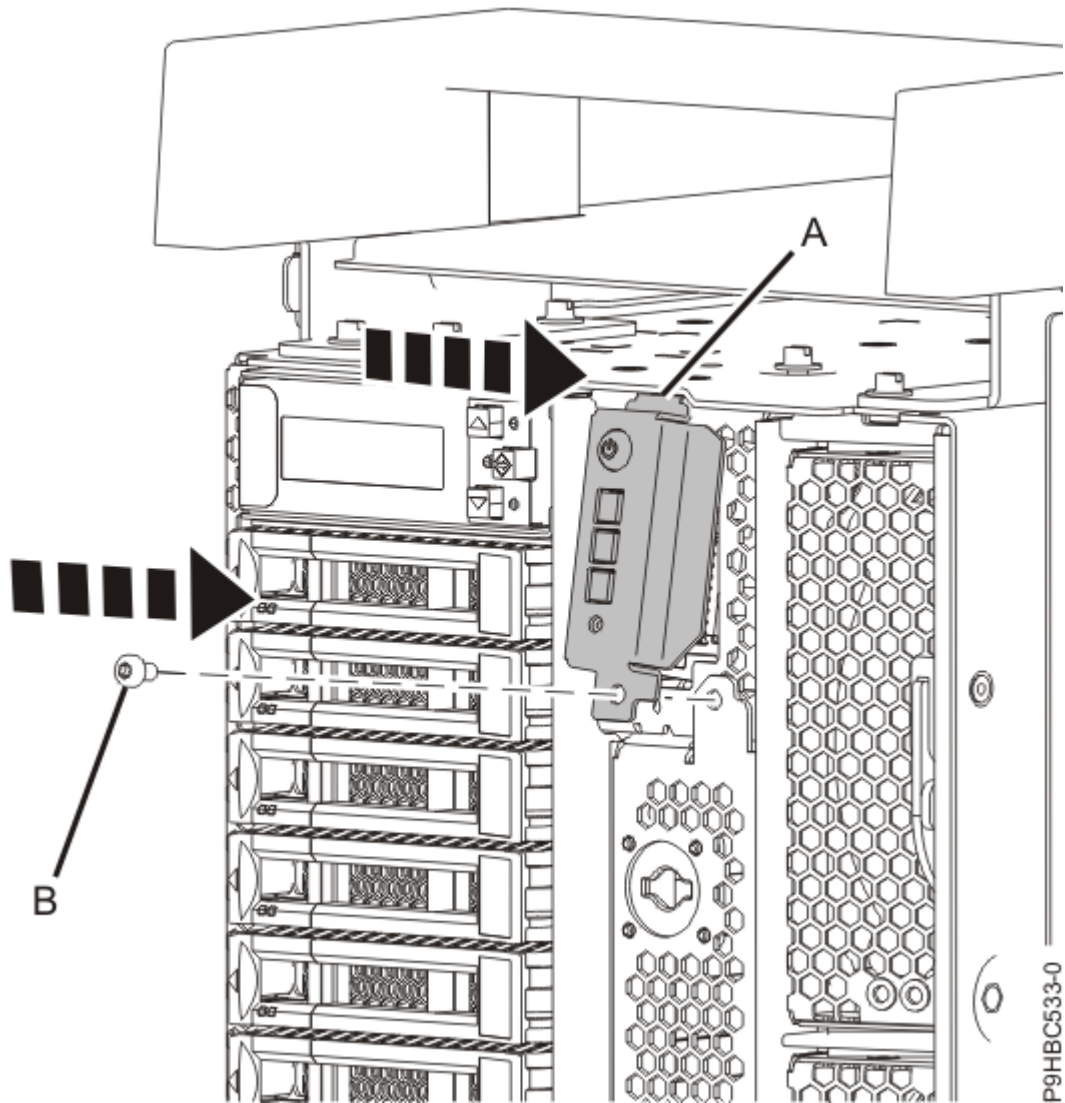

Figure 25. Securing the control panel to a stand-alone system
- b) Pivot the control panel up to secure the top tab **(A)** as shown in Figure 25 on page 27, then replace the screw **(B)** that secures the control panel to the system.